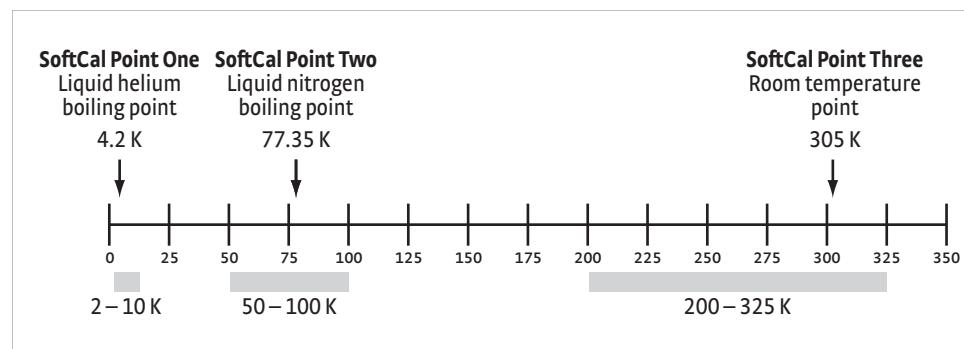
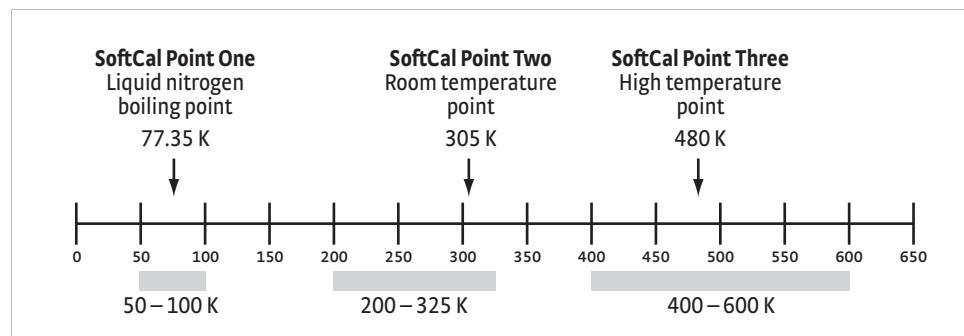

FIGURE 5-9 Acceptable temperature range for DT-400 series silicon diode SoftCal™ sensors
FIGURE 5-10 *Acceptable temperature range for platinum SoftCal™ sensors*
A unique characteristic of DT-400 Series diodes is that their temperature responses pass through 28 K at almost exactly the same voltage. This improves SoftCal™ algorithm operation by providing an extra calibration data point. It also explains why SoftCal™ calibration specifications are divided into two temperature ranges, above and below 28 K. See FIGURE 5-9.
**Review the acceptable temperature ranges for each calibration data point in FIGURE 5-9 and FIGURE 5-10. If a temperature value outside of the acceptable range is entered, the value will be limited to the closest acceptable value.**